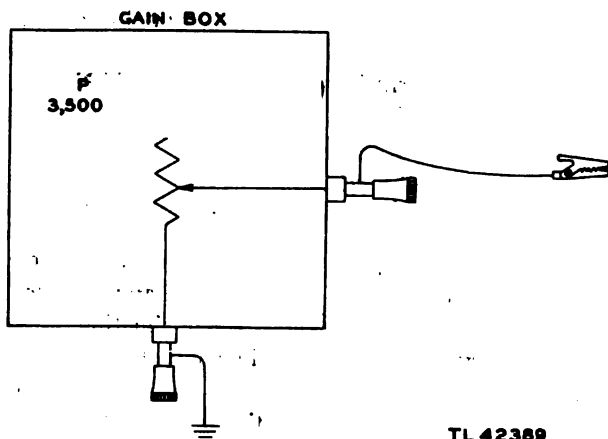

Figure 126. Gain box, schematic.
*b. HOW TO SET UP RECEIVER FOR SIGNAL SUBSTITUTION.* (1) *Description of equipment needed.*
*(c) Gain box (fig. 126).* This is essentially a potentiometer inclosed in a shielded box to replace the GAIN potentiometer in the interconnector. This is easily constructed by soldering one end of an alligator clip lead to the variable tap of a 3,500-ohm potentiometer. The alligator clip should be clasped to pin B of connector 125 on receiver. One end of the potentiometer should be soldered to a terminal on the box inclosing the potentiometer. This terminal should be grounded by a lead run to the receiver chassis.